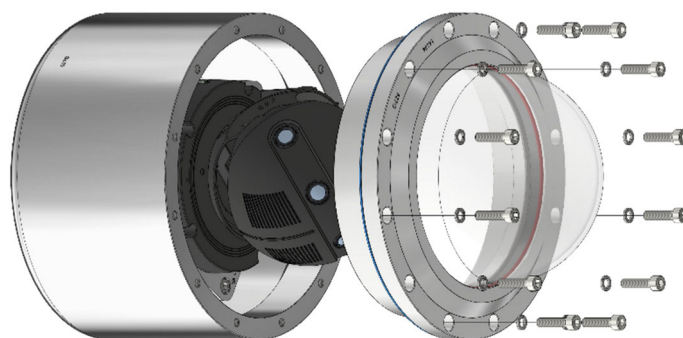

Figure 6-1 Opening the EC-962-1 T08-VA4.1K.PS1
- Carefully pull out the dome flange strictly vertically/perpendicularly (see Figure 6-1). There is a risk of side tilt! Because of negative pressure it may be difficult to remove.
**Insert the flange to reach the end position, in order to ensure ignition protection and the protection level (IP) of the housing.**